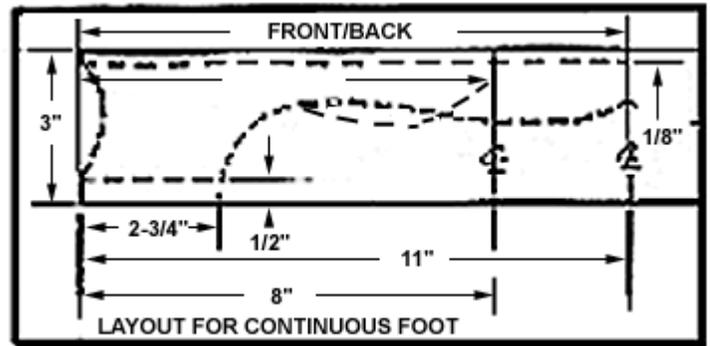

Figure 5. Bracket Foot Profile Layout
3. Lay out the bracket foot profile on the base front and sides (see **Figure 5**). **NOTE: There is no need to lay out or band saw the profile on the base back, since it will not be visible.**